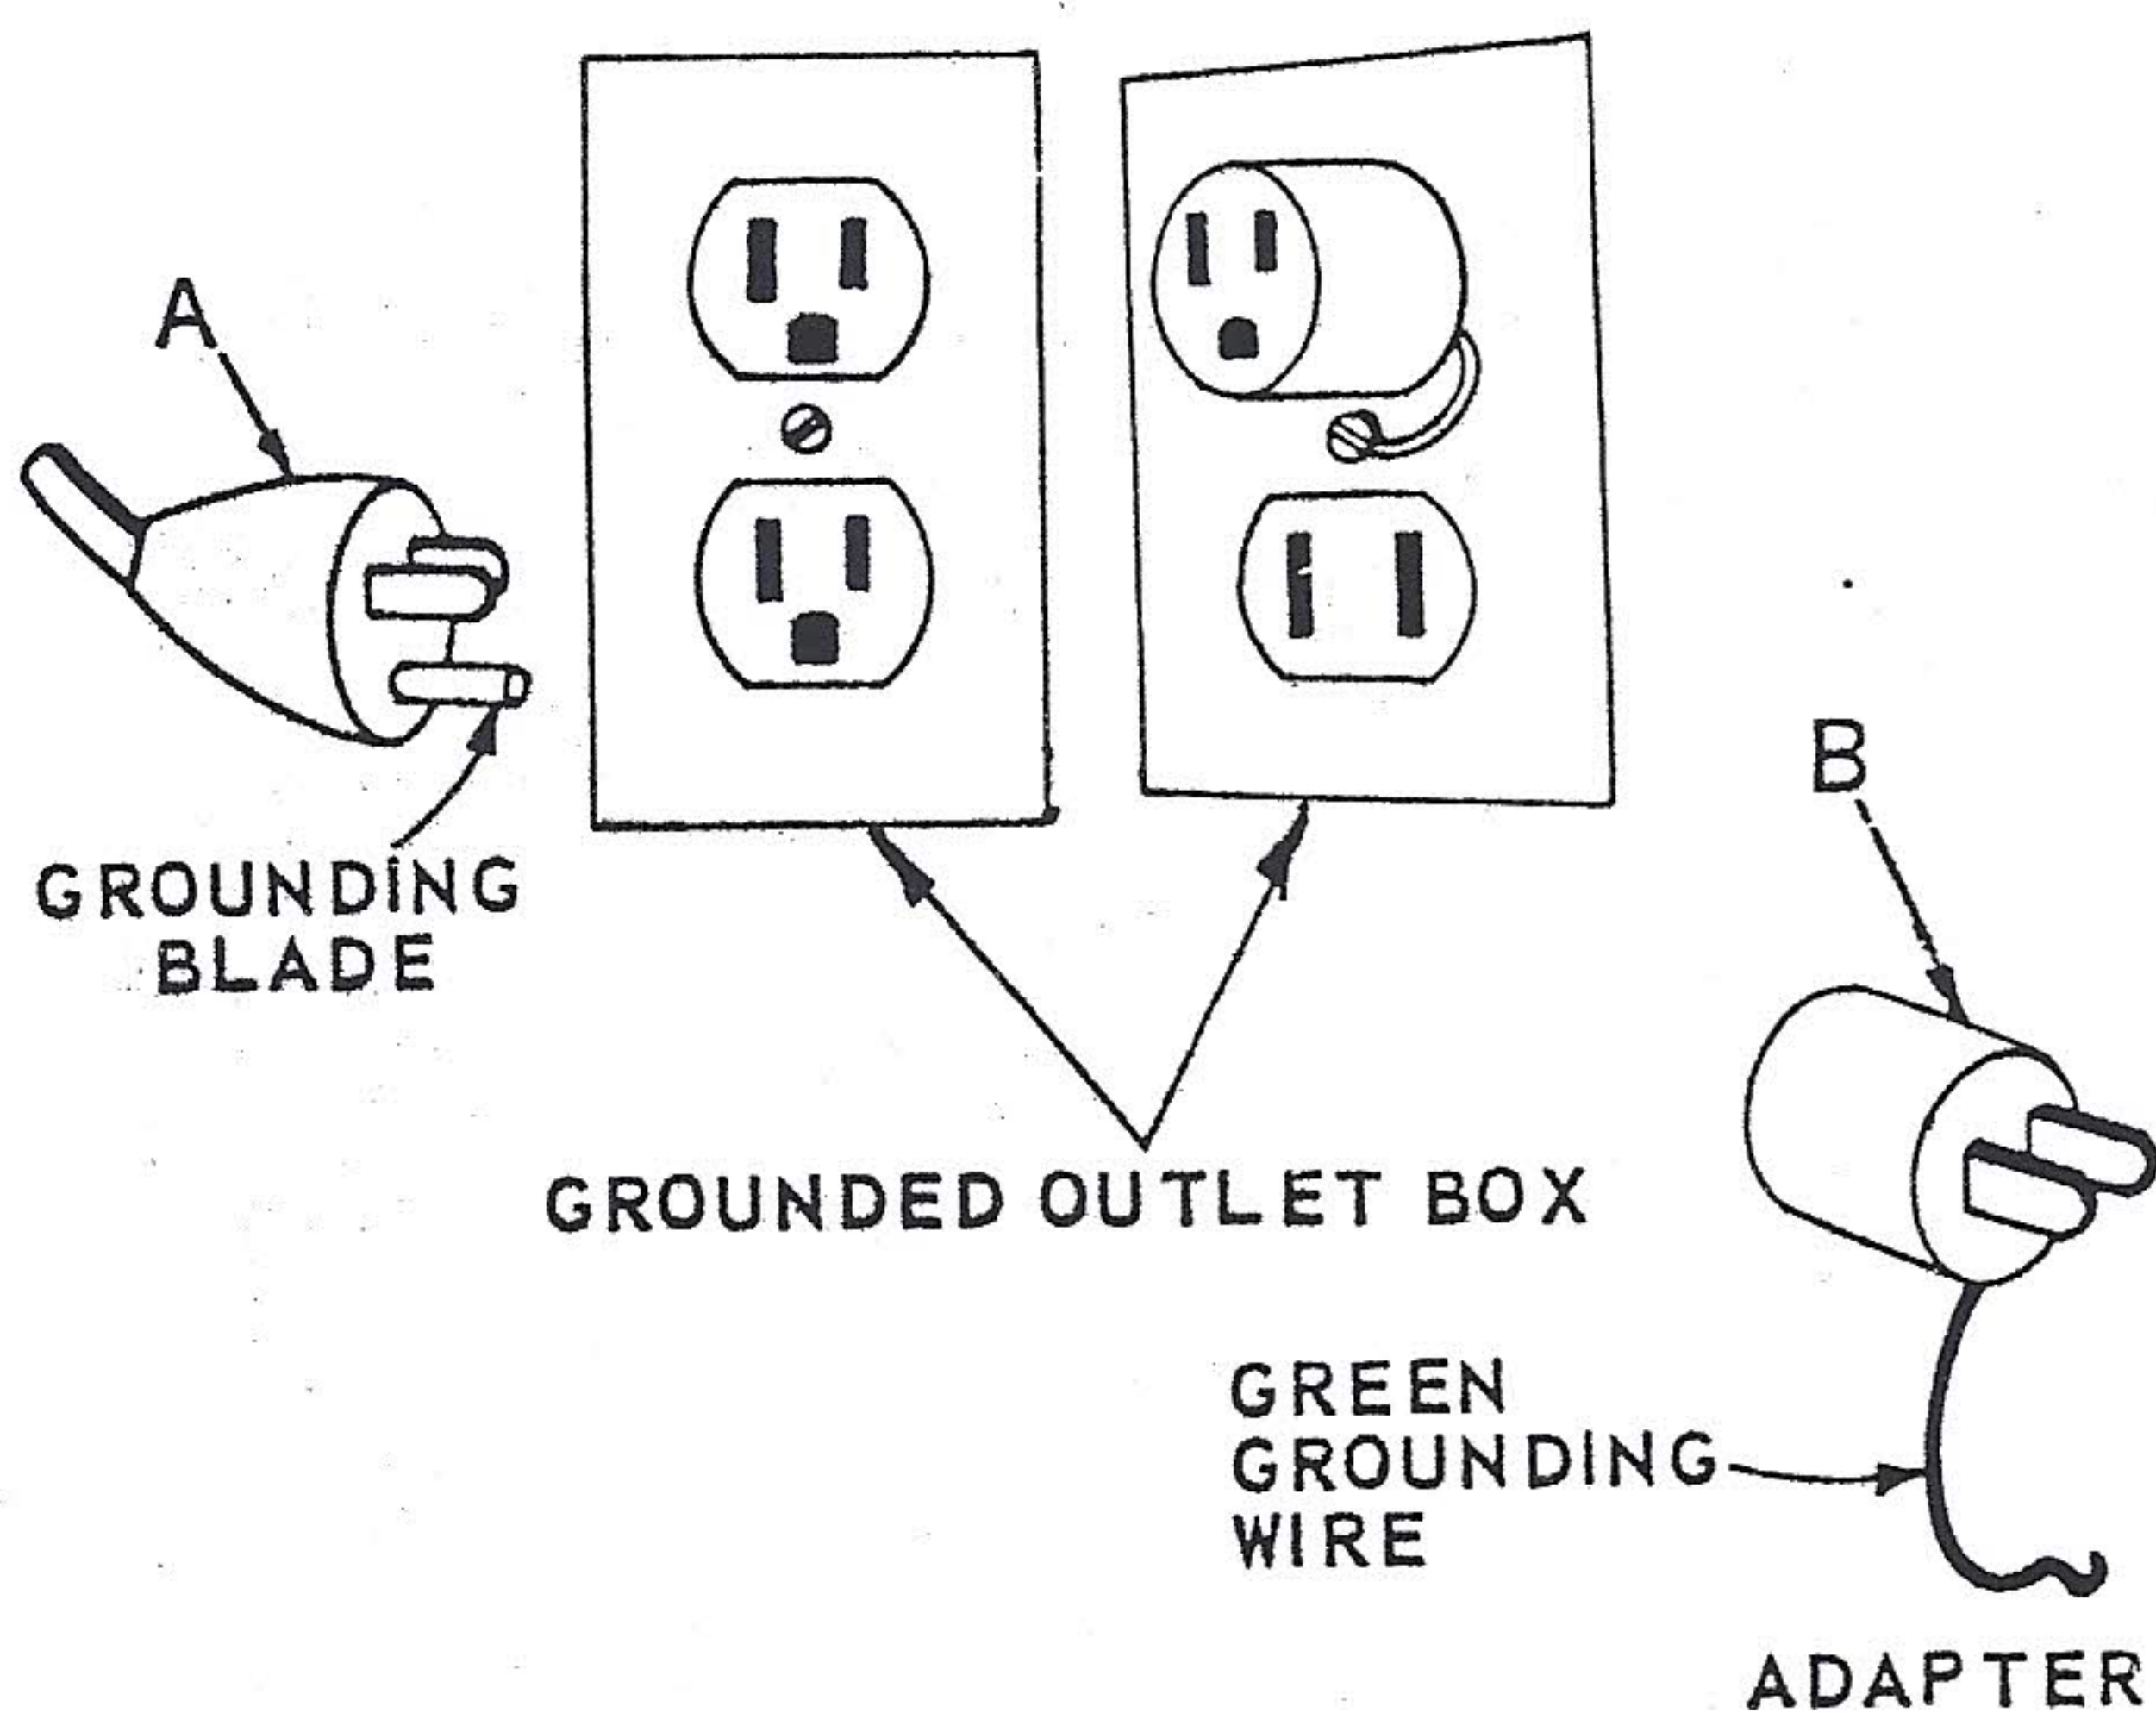

FIG. 5
5. Pull charger cord (A), through clamp and plug into a properly grounded 110-120 Volt, 60 cycle outlet. (See Fig. 5). Turn charger knob (B) clockwise to "On" position for one 12 hour cycle. The batteries must receive a one 12 hour cycle before initial tractor operation. Batteries are fully charged when charger knob returns to "Storage" position.